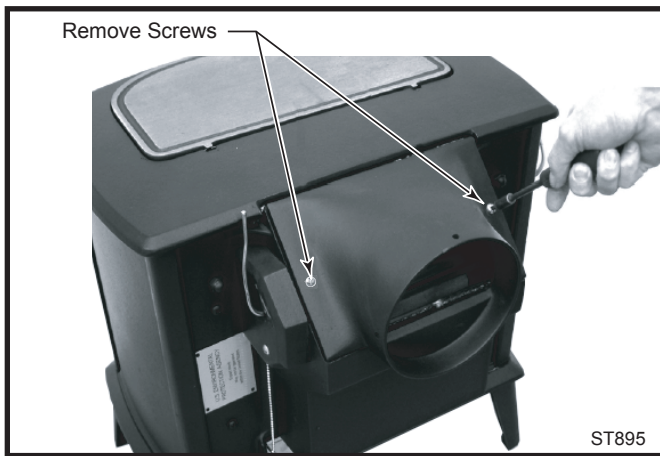

Fig. 16 Remove screws securing flue collar.
2. Take care to lift the flue collar away from the stove. Rotate the flue collar 180° clockwise, taking care not to damage the rope seal on the collar, and attach to the appliance. (Fig. 16)